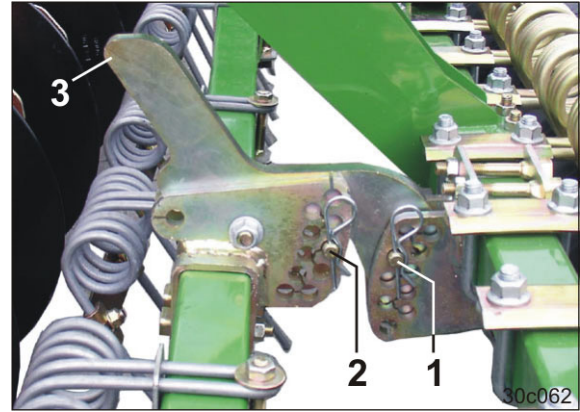

Fig. 146
6. Change the angle of the times to the ground by repositioning the bolt (Fig. 146/2)
Ensure that the pin (Fig. 146/2) is positioned below the carrier (Fig. 146/3) in the adjusting segment.
The deeper the pin (Fig. 146/2) is inserted in the adjusting segment, the flatter the angle.
7. After each repositioning, secure the pin (Fig. 146/2) with safety splint.